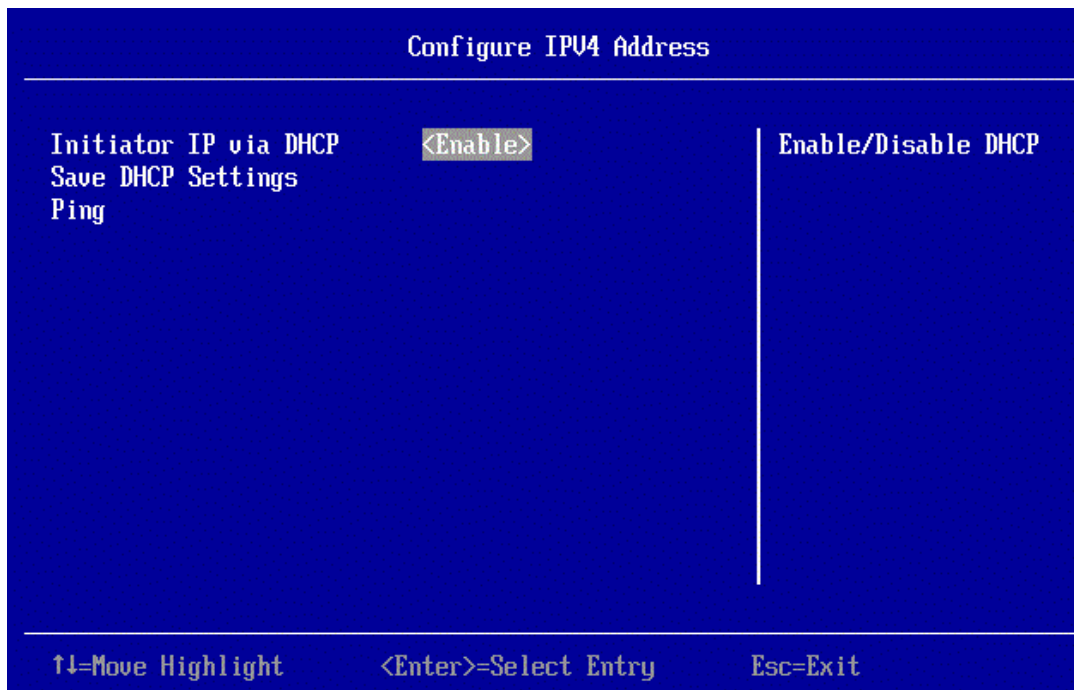

Figure 11-8 Configure IPV4 Address Screen
1. On the Configure IPV4 Address screen (Figure 11-8), select **Initiator IP via DHCP** and press **<Enter>**.
1. On the Configure IPV4 Address screen (Figure 11-8), ensure that the Initiator IP via DHCP is set to **<Disable>**. If you change this setting from **<Enable>** to **<Disable>**, select **Save DHCP Settings** and press **<Enter>**.
To ping the iSCSI initiator, on the Configure IPV4 Address screen (Figure 11-8), select **Ping** and press **<Enter>**.